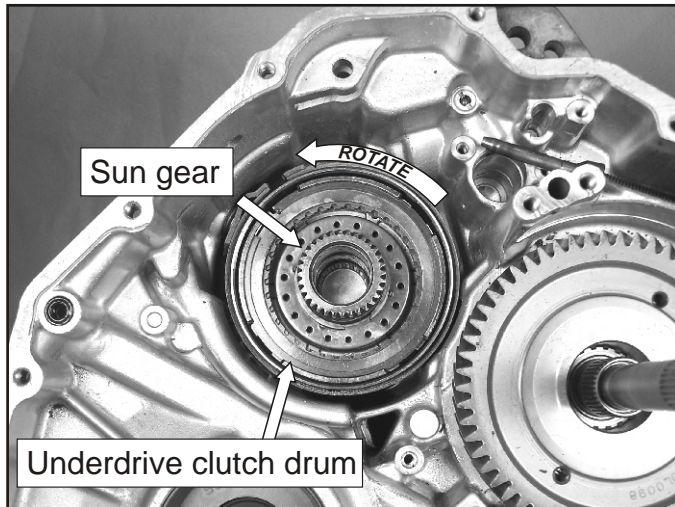

Figure 65
14. Remove the Underdrive clutch drum by grasping the sun gear and turning it counter clockwise while pulling it forward as shown in Figure 65.